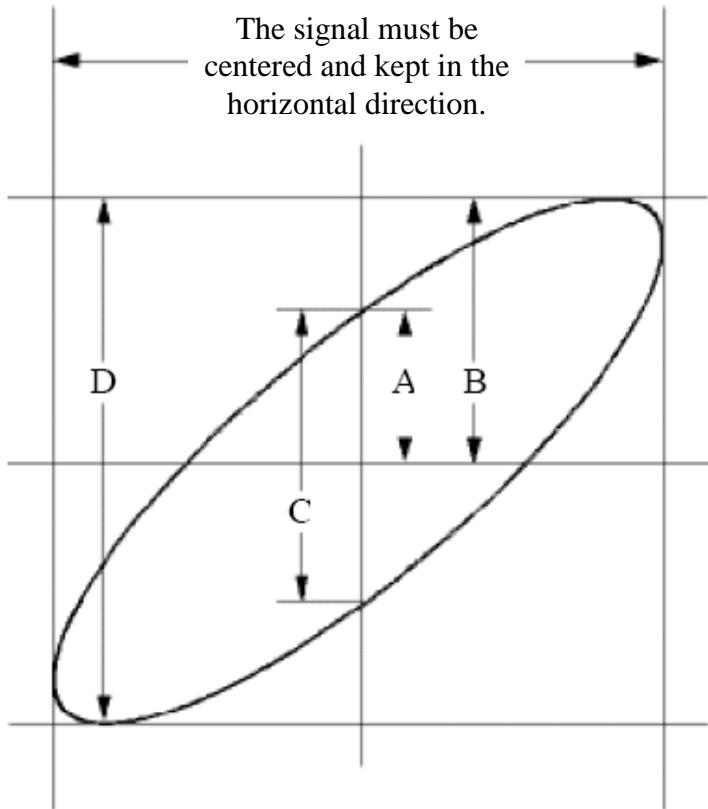

Figure 0-6 Lissajous Graph
- (1) Set the probe menu attenuation coefficient for **10X** and that of the switch in the probe for **10X** (see "*How to Set the Probe Attenuation Coefficient*" on P11).
- (2) Connect the probe of channel 1 to the input of the network and that of Channel 2 to the output of the network.
- (3) Push the **Autoset** button, with the oscilloscope turning on the signals of the two channels and displaying them in the screen.
- (4) Turn the **Vertical Scale** knob, making the amplitudes of two signals equal in the rough.
- (5) Push the **Acquire** button to display the right menu.
- (6) In the right menu, select **XY Mode** as **ON**. The oscilloscope will display the input and terminal characteristics of the network in the Lissajous graph form.
(7) Turn the **Vertical Scale** and **Vertical Position** knobs, optimizing the waveform.
(8) With the elliptical oscilloscope method adopted, observe and calculate the phase difference (see *Figure 0-6*).